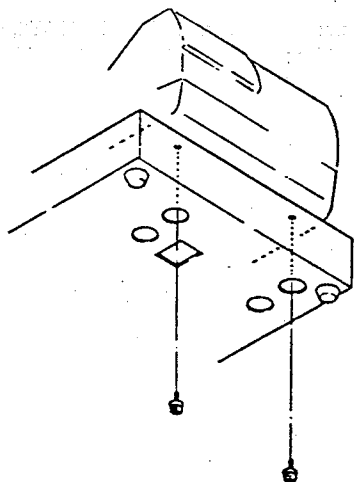

Fig. 14-9
1) Remove two screws from the bottom of the drawer (Fig. 14-9).
Detach the drawer from the cash register in reference to Figs.14-9 and 14-10.